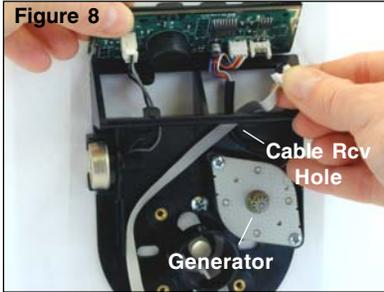

Figure 8
5. Route the ribbon cable toward the keypad so that the cable will not be pinched by the generator. Gently lift the keypad board assembly and guide the cable up through the cable receiving hole in the keypad/base assembly. (Figure 8)
7. Position the keypad/base assembly firmly against the container door and attach it to the container door using the two #8-32 (or M4-0.7) keypad/base assembly mounting screws. (Figure 8) Do not fully tighten screws.
10. Tighten the keypad/base assembly mounting screws. (Torque 17-20 lbs., 1.9-2.25 N-M) (Figure 8)